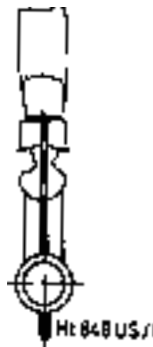

Figure 12
- Burner flames should be blue and there should be no lifting of flames from burner ports. See figure 12.